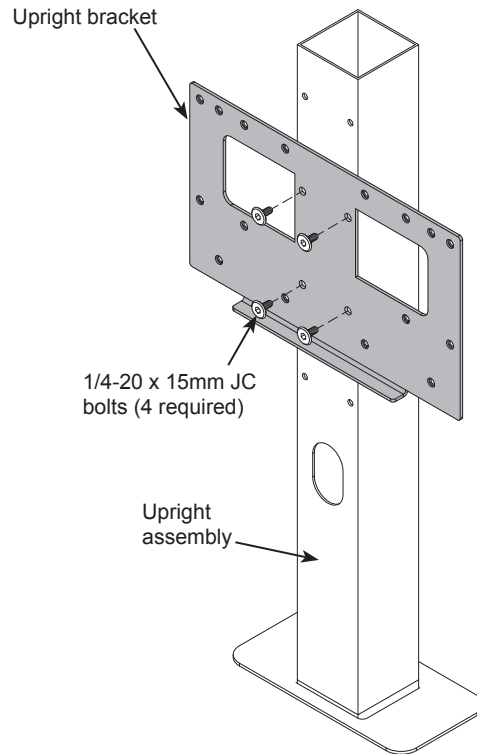

Figure 4
- Attach the upright bracket to the upright assembly as shown using (4) 1/4-20 x 15mm JC bolts and tighten securely. (Multiple mounting holes / height positions are available on the upright assembly). **Figure 4.**